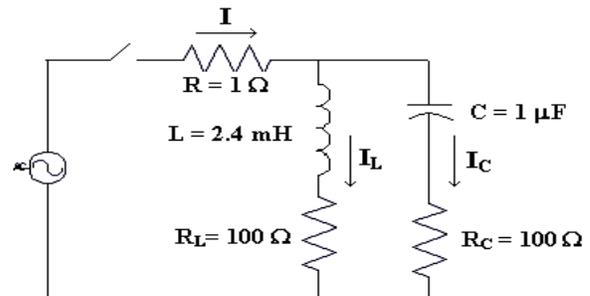

Fig.1
1. Construct the circuit as shown in the fig.1. Connect channel 1 of the oscilloscope across function generator and channel 2 of the oscilloscope across  $R_L$